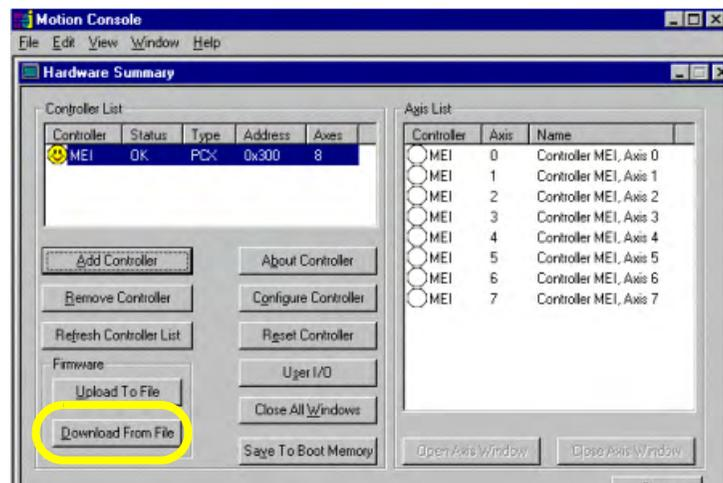

Figure 5-73—Download from file
- 4a) On the Hardware Summary window, select **Download From File**. See Figure 5-73.